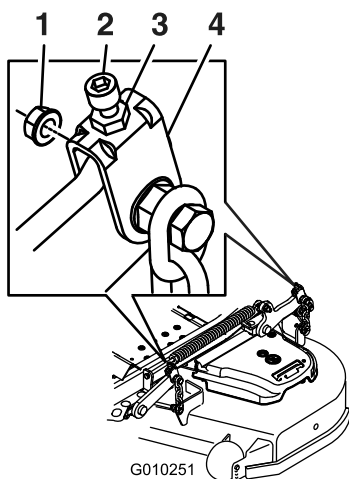
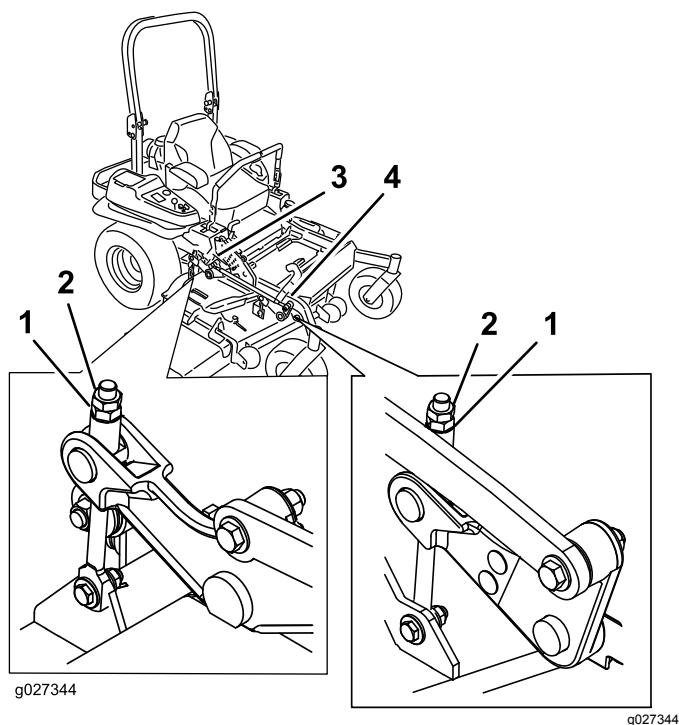

Figure 106
Figure 107
10. Fine-tune the adjustment nut on the front deck-lift assembly by turning it (Figure 106 or Figure 107).
16. Fine tune the screw adjuster by turning it to get 8.3 mm (3-1/4 inches) height (Figure 107).